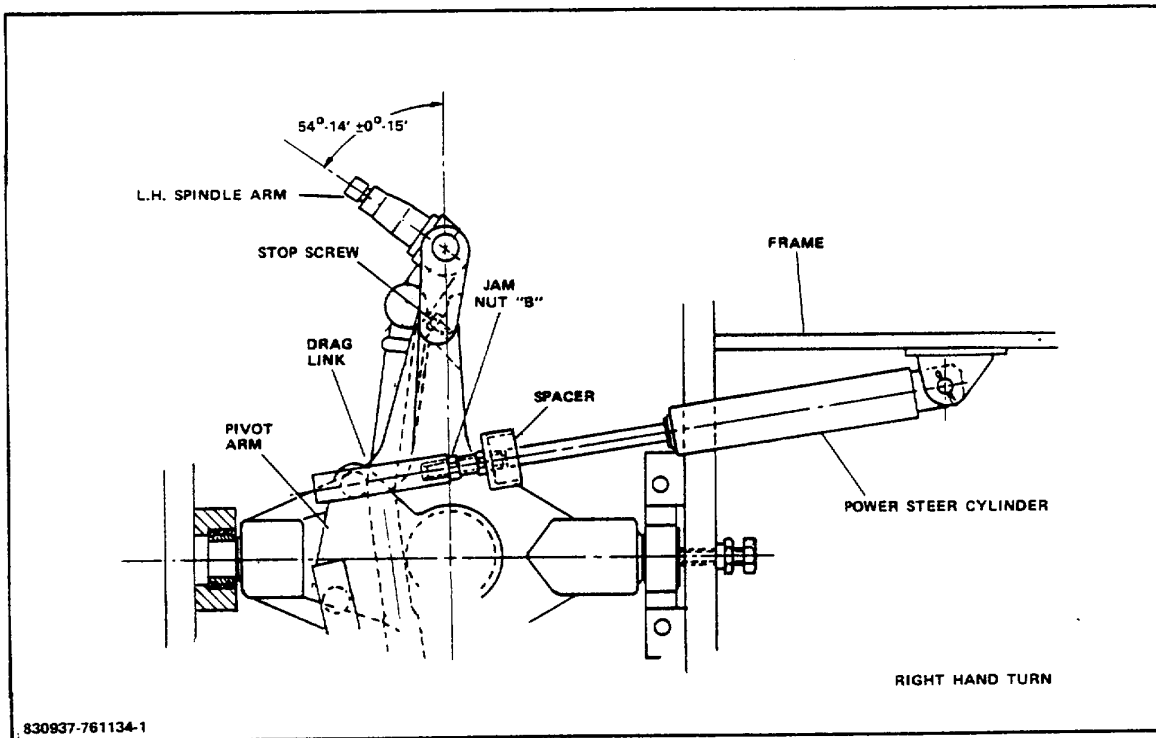

Figure 3-1. Drag Link Adjustment Right Turn
- (1) Turn the steer wheels to the right until the spindle arm contacts the stop screw on the axle housing (Fig 3-1).
- (2) Pull cylinder rod out to maximum extended position. Adjust drag link until the socket lines up with the ball stud on the pivot arm and install link to ball stud.
- (3) Seat the adjusting plug against the ball stud, then back off plug until the slot in the plug aligns with the nearest set of holes and insert new cotter pin.
- (4) Tighten jam nut "A" against the drag link and torque to 150-170 lb-ft.